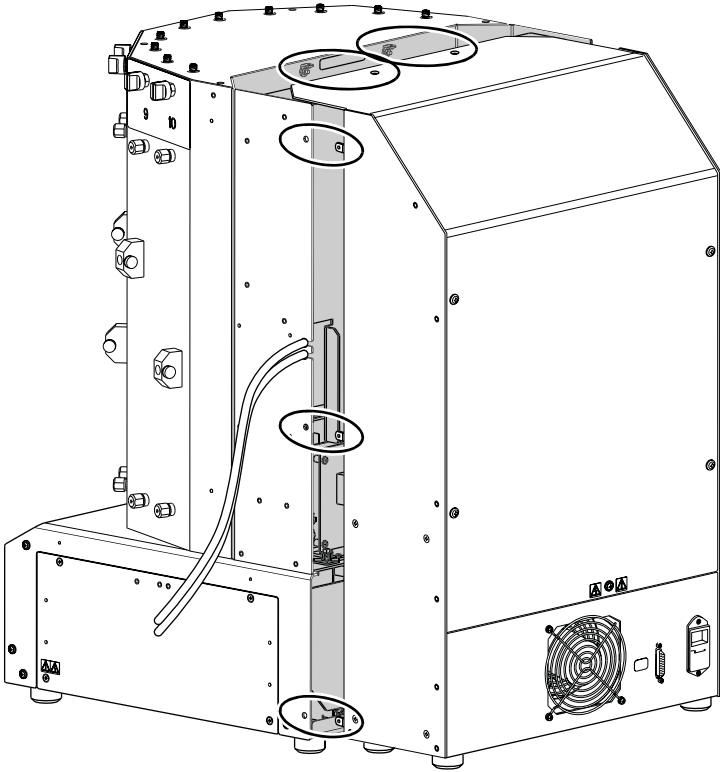

Figure 2-11 Aligning the fasteners
11. Slide the two modules together (Refer to Figure 2-11). Align the eight holes on the upper and side case panels, and secure with screws.